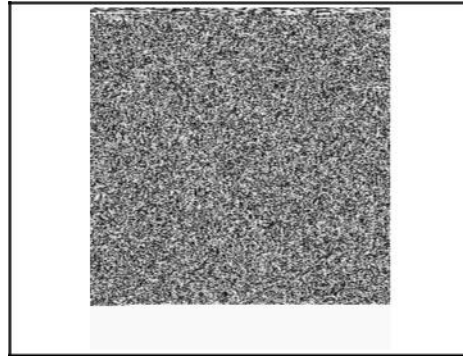

Figure 56
1. Remove fuel bowl screws (**A**, Figure 56). Remove the fuel bowl (**B**) from the carburetor body.